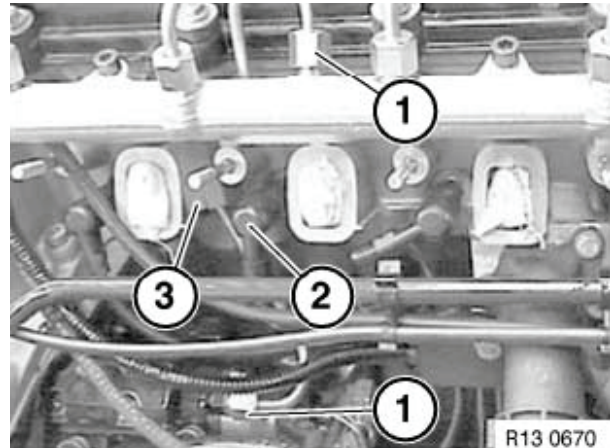

Figure 6-20
6. If removing high-pressure line between high-pressure pump and fuel rail (Figure 6-20, (1)), disconnect glow plug connector (if equipped) (Figure 6-20, (2)). **4BY2 Engines:** Rubber mount (Figure 6-20, (3)) will be removed with the line.